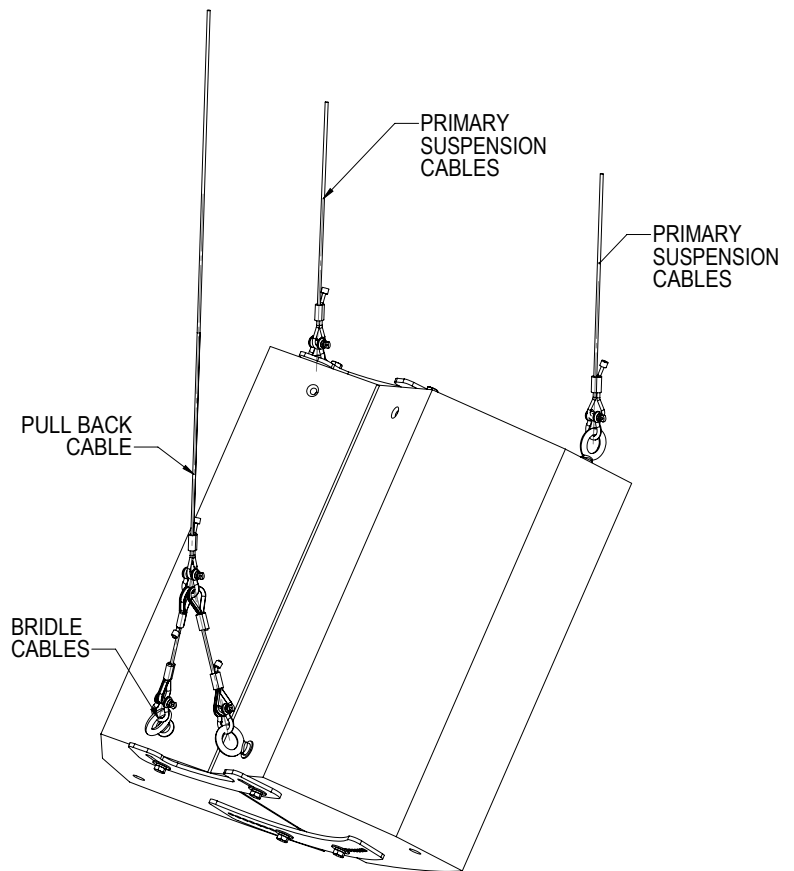

Figure 4
Step 9: Use the eyebolts on the top of the speaker cluster as the main speaker suspension points. Use the rear lower eyebolts of the lower speaker for pull back points and adjust the tilt angle of the speaker cluster assembly (Figure 4). All eyebolts can be used for four suspension points or the rear can be bridled to create a single pull back point (Figure 4).